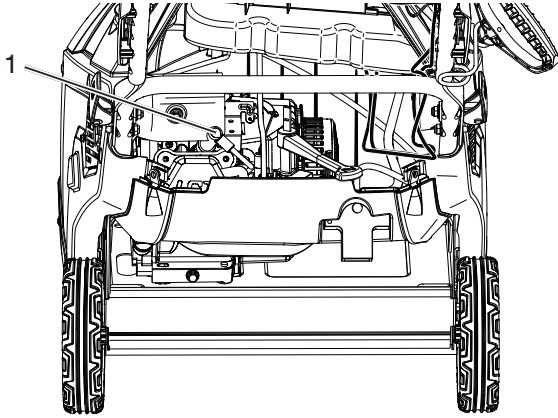

Figure 30
15. Disconnect the spark plug wire from the spark plug (Figure 30).
20. Connect the spark plug wire to the spark plug (Figure 30).